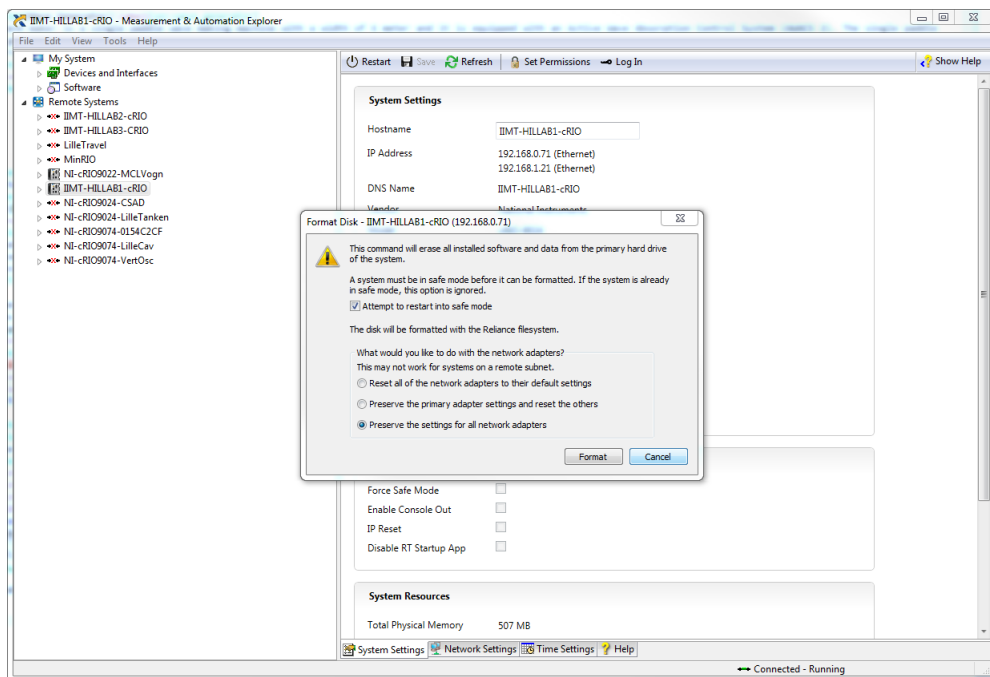

Figure 2.1: Format cRIO
4. Select "Attempt to restart into safe mode" and "Preserve the setting for all network adapters", as illustrated in Figure 2.1.